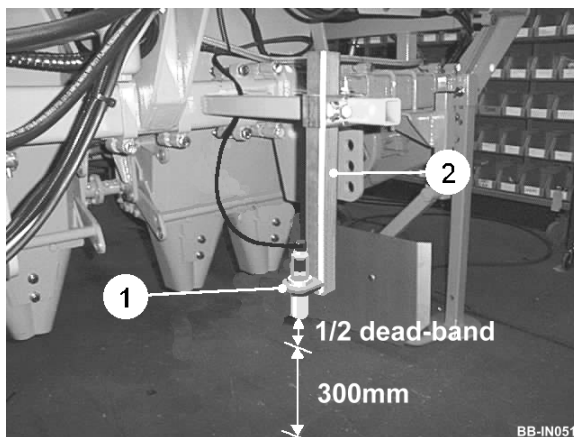
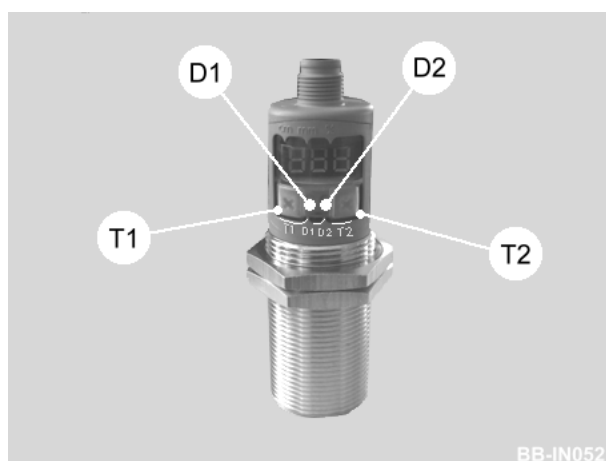

Fig 32
Fig 34
Automatic depth control ensures that the desired planting depth is maintained irrespective of the contours of the bed. The ultrasonic sensor (item 1, figure 32) activates the hydraulic control valve operating the depth ram (item 1, figure 20). The depth ram then raises/lowers the planter relative to the wheels thus maintaining planting depth. The 'RAISE' and 'LOWER' distances are preset at the factory to approximately 300mm and 315mm respectively, this gives a neutral (dead-band) zone of approximately 15mm. The active sensing distance is shown on the sensor display. To adjust the settings, see 'Depth Control Sensor Adjustment'.
4. Fully lower the sensor leg (item 2, figure 32) and then gradually raise it until both LED's (D1 & D2, fig 34) are illuminated green. This is the neutral (dead-band) zone. Raise the leg slightly to position the sensor in the middle of the neutral zone. Ensure both LED's are still green and then retighten the leg.